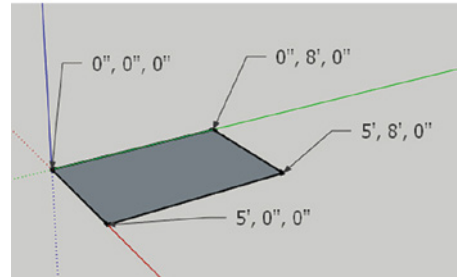

Figure 4-16: Click the *Text* tool on the plane's corners to reveal its coordinates. All corners must have the same last coordinate to be coplanar.
1. The endpoints aren't aligned. They may be misaligned just enough to form a subdivided plane, one where a face forms if a diagonal line is drawn across it. See if SketchUp supplied a hidden diagonal line by clicking **View > Hidden Geometry**. Alternatively, click the *Text* tool on each point, hold the mouse down and drag. This creates a leader line and text field in which the point's coordinates appear (Figure 4-16). All points